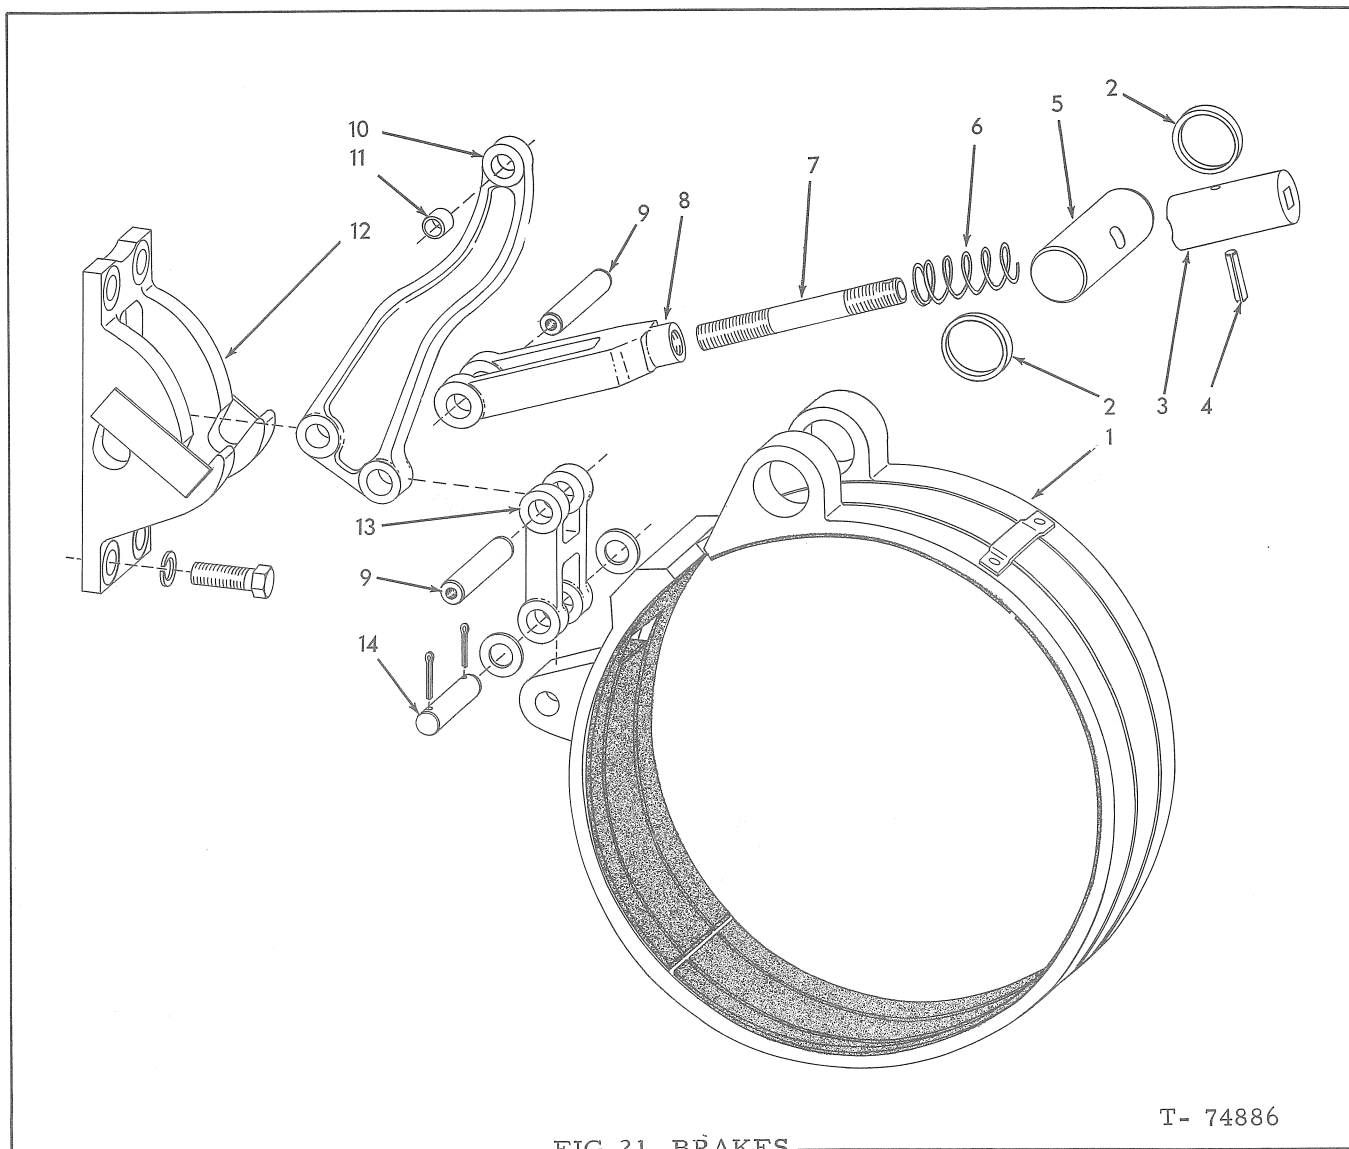
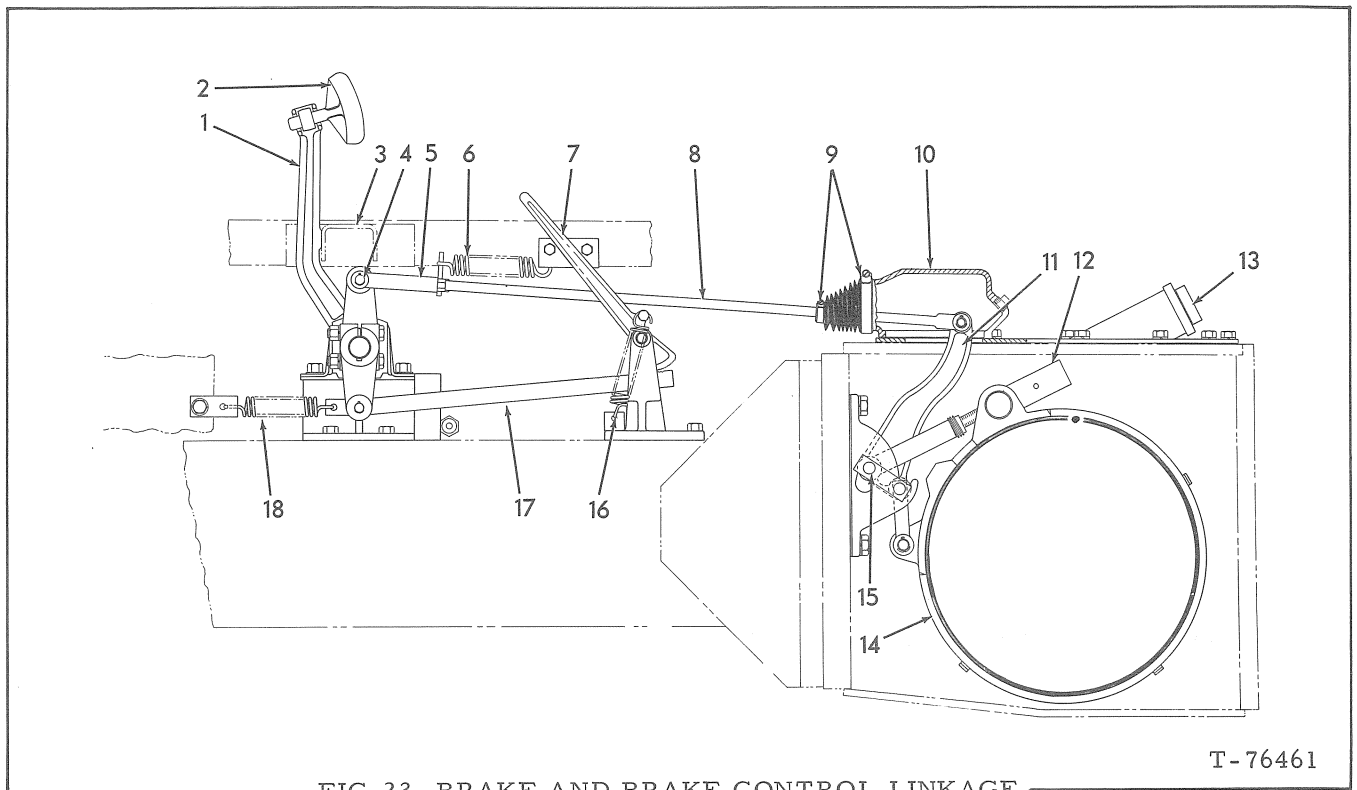

FIG. 21 BRAKES
FIG. 23 BRAKE AND BRAKE CONTROL LINKAGE
Align holes in band operating lever and adjusting fork so brake lever upper pin, Fig. 23 (15) can be installed through hole in steering clutch compartment, Fig. 13. Install pin so tapped hole is toward outer wall; drive pin slightly below flush in adjusting fork. Turn adjusting block, Fig. 23 (12) clockwise until brake bands are tight on drum to seat brake lever pins; back adjusting block off several turns.
Install steering clutch compartment cover (with new gasket). Slide linkage cover, Fig. 23 (10) (with new gasket) over brake control rod (8); connect control rod to band operating lever (11) and secure linkage cover to steering clutch compartment cover. Clamp boot to linkage cover.
Steering clutch and brake must be removed and installed as an assembly. Refer to 6.1 and 6.5 for detailed procedures. See Figs. 21 and 22 for brakes and brake controls.
Remove yoke pin Fig. 23(4) and access plug (13); use torque wrench to tighten brake bands (see 7.3.2.2).
Remove floor plates. Clamp or block pedal levers Fig. 23(1) against floor supporting channel(3). Loosen jam nut on adjusting yoke (5) and adjust yoke so yoke pin (4) can be installed with easy slip fit with brake pedal levers (1) against floor supporting channel. Tighten adjusting yoke jam nut; install floor plates.
Back off adjusting block, Fig. 23 (12) two turns and install access plug (13).
Remove access plug, Fig. 23 (13).
Use a torque wrench to turn brake band adjusting block, Fig. 23 (12); each half turn the groove in base of adjusting block will seat on the brake band pin, Fig. 21 (5). Turn adjusting block clockwise; stop adjusting block in its groove when torque wrench reads as close as possible to 80 lbs.ft. (11,06 kg/m).
Back off adjusting block two turns and install access plug, Fig. 23 (13).